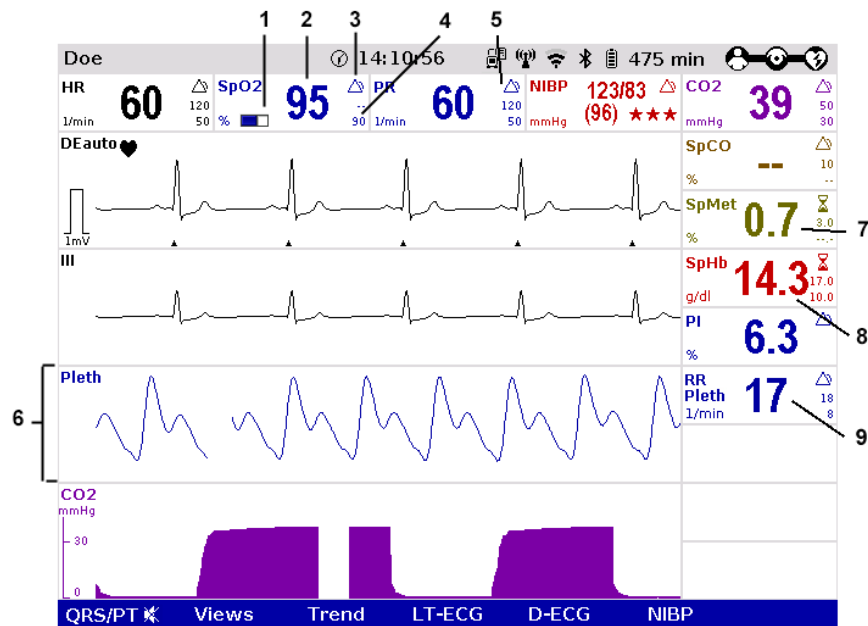

Fig. 6-21 Oximetry monitoring, configured screen (illustration may differ)
The signal intensity is a quality criterion for the capturing of measurement values. The signal intensity is measured and displayed as a horizontal bar in the parameter field SpO2 (see page 132 Fig. 6-21, item 1).